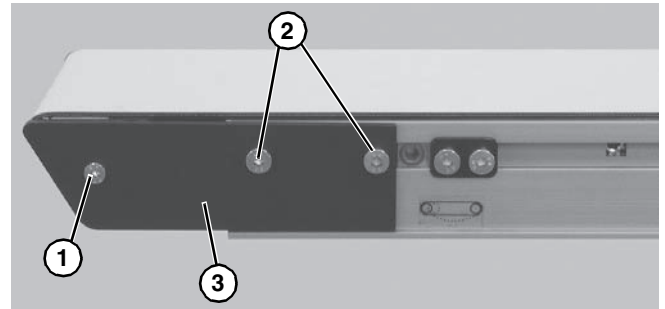

Figure 66
2. On one side of conveyor, use a 3 mm and 4 mm hex-key wrench to remove head plate fastening screws (**Figure 66, item 1 & 2**) and remove head plate (**Figure 66, item 3**).
4. After replacing bearings, re-install head plate (**Figure 66, item 3**). Use a 3 mm hex-key wrench to tighten one (1) fastening screw (**Figure 66, item 1**) to 30 in-lb (3.4 Nm). Leave two (2) fastening screws (**Figure 66, item 2**) loose for belt tensioning.